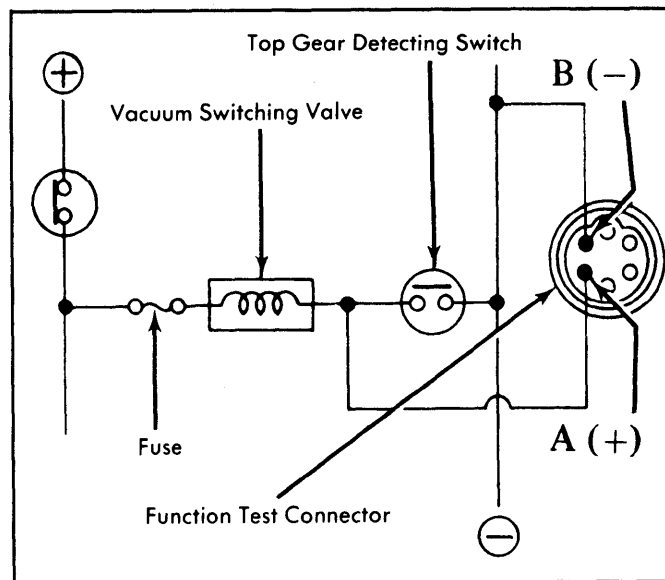

Fig. 6: 1977-78 810 TCS Electrical Circuit
5) Check electrical system at function test connector. See Fig. 6. Turn ignition on (DO NOT start engine). Check voltage across terminals "A" and "B". Reading should be zero (0) volts in 4th gear, 12 volts in all other gear positions. If not, check harness and/or fuse.